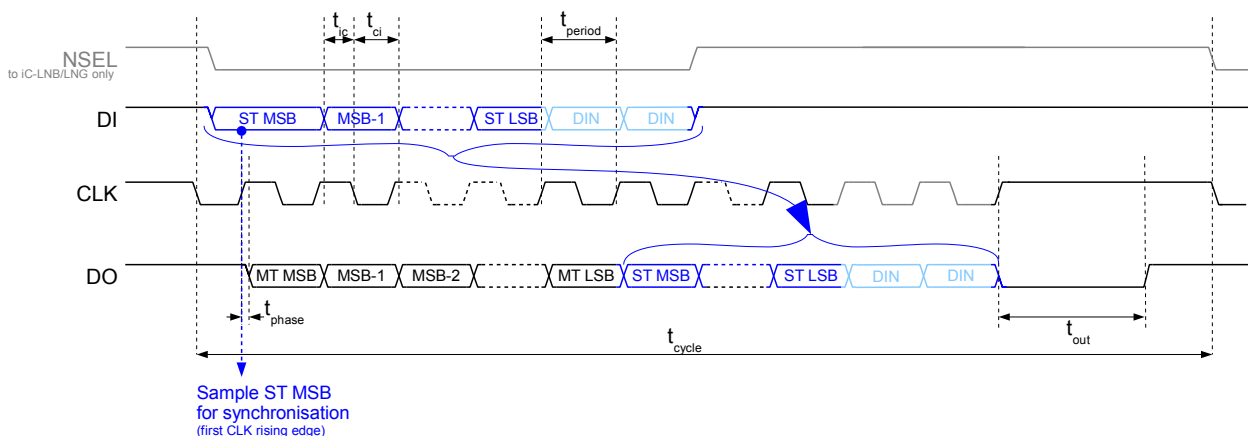

Figure 9: I/O line signals of the serial interface in chain mode (INT\_MODE = 1). Usage with iC-LNG/LNB optical singleturn encoder only.
In the chain mode, the singleturn sensor transmits the singleturn position first to the iC-PV via the data in pin (DI). In this configuration, the iC-PV takes care of synchronization, calculates a consistent absolute position and outputs it concurrently (MSB first) via the data out pin (DO), comparable to a shift register. To synchronize the incoming singleturn position word and its internal multiturn position, the iC-PV samples the singleturn MSB with the first rising edge of CLK. Therefore, in chain mode, it is mandatory to use a singleturn encoder architecture capable to provide the MSB at this instant of time (see Figure 9). From iC-Haus portfolio these are the iC-LNG and iC-LNB singleturn encoders. They use an additional NSEL signal to latch the MSB before communication starts. Please refer to their datasheets for details. An application example with iC-LNG as singleturn iC is shown in Figure 16.